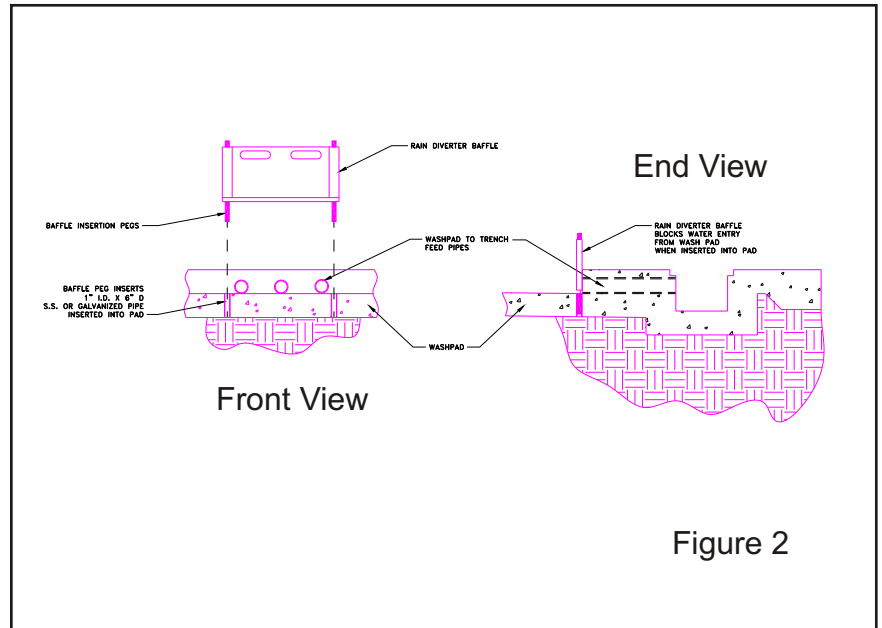

Figure 2
- The wash pad is designed with a Rain Diverter that will remove storm water off the pad without entering the water treatment equipment. The design incorporated here shown in figure 2 uses a sliding gate that when closed blocks the path of the water to the trench and the grade of the wash pad then allows the water to leave the pad at the corner. The wash
The rain gate can be designed in a variety of manners from simple gates like the one shown in Figure 2. They can also be elaborate using ball valves and automated gate type valves that can be controlled simply by using a flow switch on the wash water recycling system indicating that the wash pad is in use. The device ensures that no rain water will enter the water treatment equipment by redirecting the storm water safely off the wash pad. It is important to ensure the wash pad is cleaned after each use to reduce the contaminants that could be flushed off the pad during a rain event.